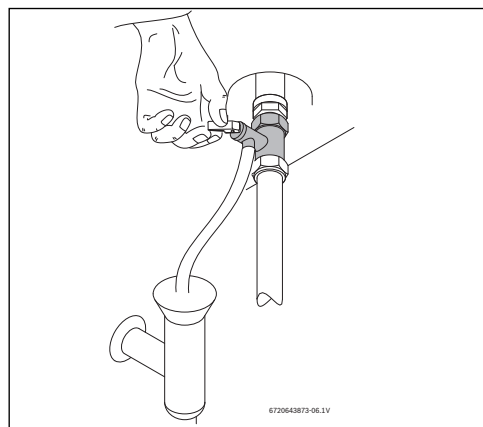

Fig. 14 Manually opening the pressure relief valve
- Open pressure relief valve (fig. 14).
- ▶ Open the pressure relief valve manually at least once a month (fig. 14).